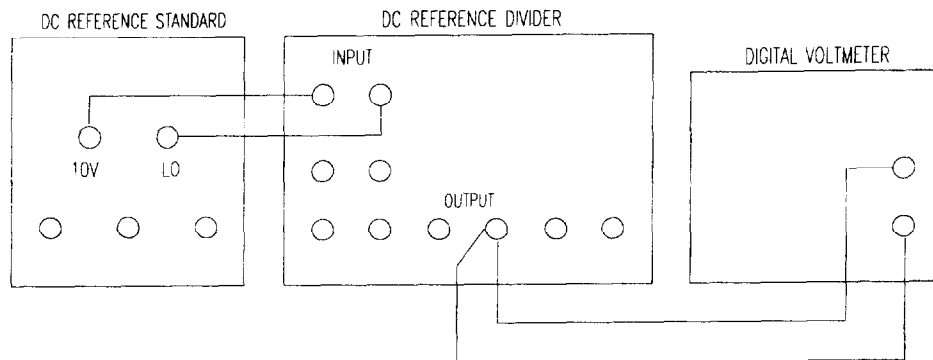

Figure 6.
4.4.1 Connect the equipment as shown in Figure 6.